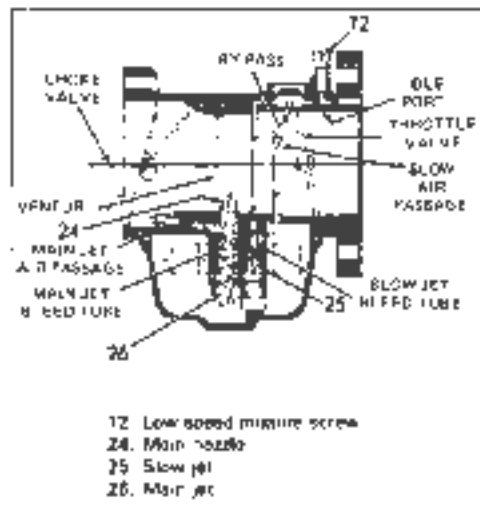

Figure 3-75 Carburetor Slow and Main System
The slow system is shown in Figure 3-75. It functions at idle, low and intermediate speeds when throttle valve is closed or only partially open. As idle fuel enters main jet (26) and after being metered there, enters slow jet (25) which is a tapered orator. The fuel from jet (26) enters bleed tube portion of slow jet where it mixes with air from slow air passage. The fuel mixture is regulated by adjusting screw (12). When throttle valve is closed, fuel mixture flows into venturi and jet entirely through idle port. As throttle valve gradually opens, fuel mix discharge is transferred to bypass. Note that slow jet bleed tube is actually a part of slow jet (25).
The main system also is shown in Figure 3-75. The main system functions at intermediate and high speeds as the throttle valve opens further. The fuel is metered by main jet (26) and enters main jet bleed tube portion of main nozzle where it mixes with air entering through main jet air passage. This fuel air mixture then exits from main nozzle (24) into venturi.
The choke system, composed of choke valve and associated parts, is shown in Figure 3-75. The choke is normally set by pulling choke lever out. By rotating choke button, choke valve can be adjusted and completely closed (fuel is choked for cold engine), partially open, or fully open (full for warm engine).